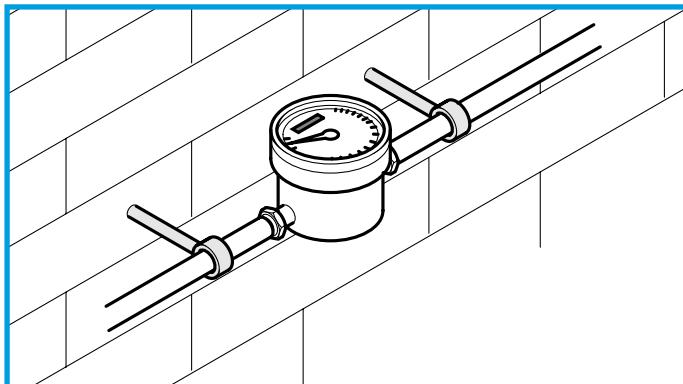

Figure 5 – Valve and meter fixing
- If there are Valves, Meters etc., always use solid collars acting as fixed points at the same time (Figure 5).